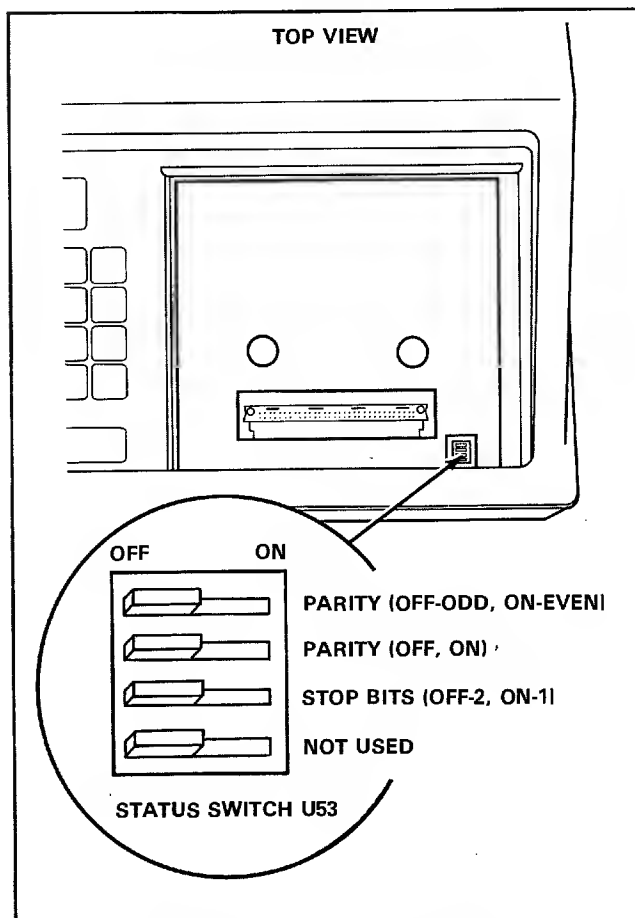

Figure 2-8. Status Switch Setting
To set parity and stop bits, refer to figure 2-8 and follow this procedure:
3. Access the controller board's status switch (U53) through the cut-out in the lower right corner of the protective shield. See figure 2-8.
4. Flip the switches to the desired setting; figure 2-8 shows the switch positions set by the factory.